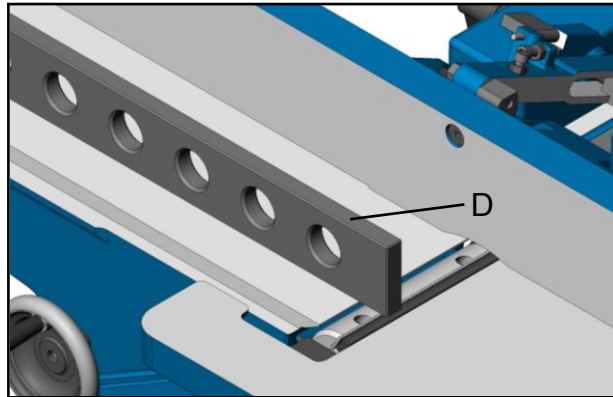

Fig. 4
3. Set a straightedge (D) onto the outfeed table so that it sits over the cutter head but does not completely cross the gap between the tables and touch the in feed table, Fig. 4.